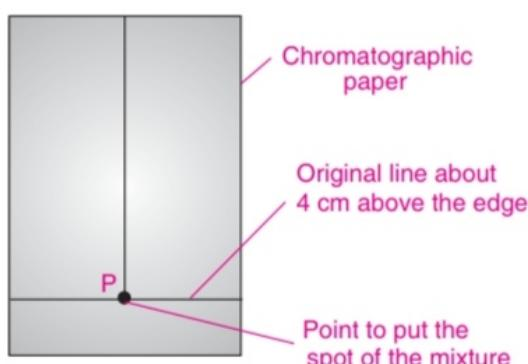

Fig. 6.4. Spotting of the mixture.
1. Take a Whatman filter paper strip (20×2 cm) and draw a line with pencil above 3 cm from one end. Draw another line lengthwise from the centre of the paper as shown in Fig. 6.4.